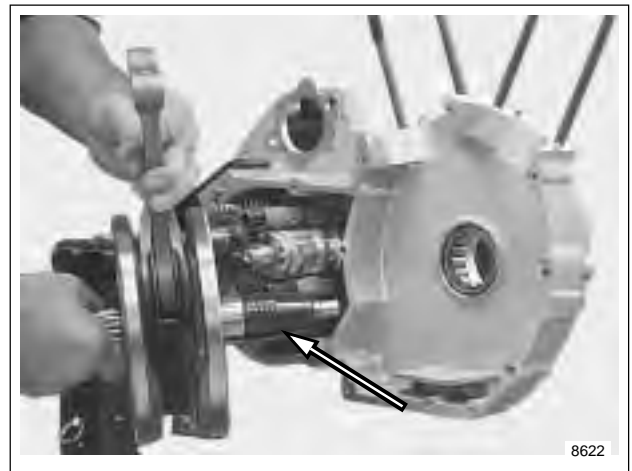

Figure 3-152. Installing Flywheel Assembly with CRANKSHAFT GUIDE (Part No. HD-42326)
4. See Figure 3-152. Attach left crankcase half to engine stand.